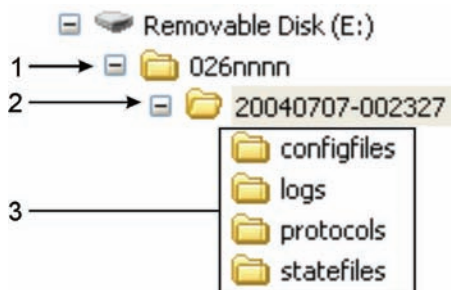

Figure 164: Remote device folder structure
- (i) All files for a particular instrument are stored in a folder with the instrument's name (see item 1 in Figure 164).
- (ii) Each file transfer operation creates a sub-directory with a name corresponding to the time and date the transfer commenced (see item 2 in Figure 164). Incident report places a compressed file in this sub-directory
- (iii) Each file type (except Incident report) has a sub-directory that contains the transferred files (see item 3 in Figure 164).